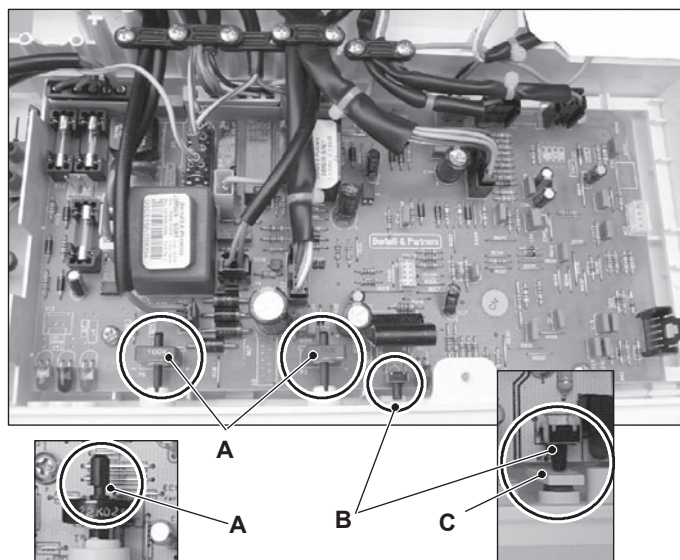

Figure 9.14
- 9 Insert the spindles in the control panel knobs until the notch A (Figure 9.14) reaches the potentiometer edge. It is not necessary to force them in the knob.
- 10 While tightening the screws that fix the Electronic control/ignition p.c.b. on the control panel, keep the p.c.b. towards the control panel fascia making sure of the contact between the boiler reset button B and the tab C (Figure 9.14).